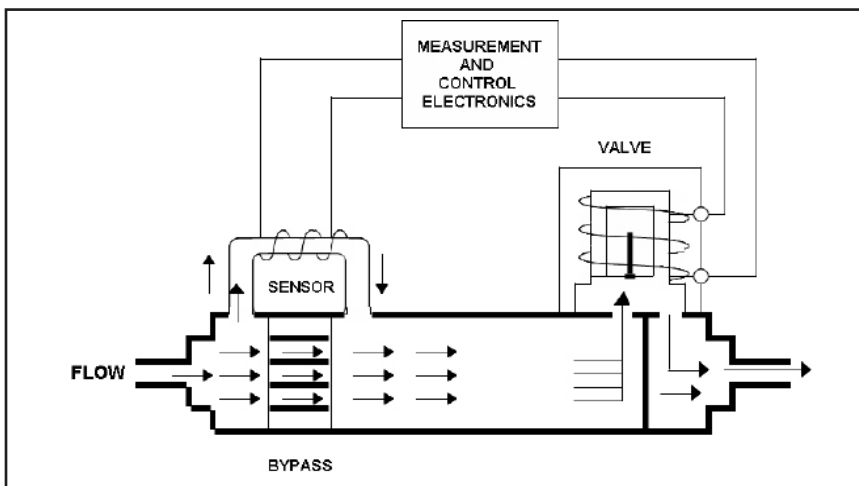
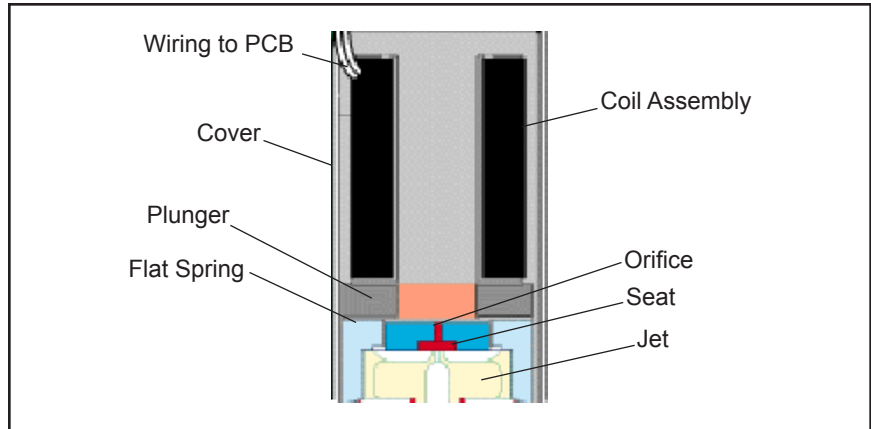

Figure 2-3 Measurement and Control Electronics
Figure 2-4 Control Valve Assembly
Control Valve Assembly (8)	Opens and/or closes gas flow through the MFC. Refer to Figure 2-3, Measurement and Control Electronics, below, and to Figure 2-4, Control Valve Assembly, on p. 2-3 for further details.